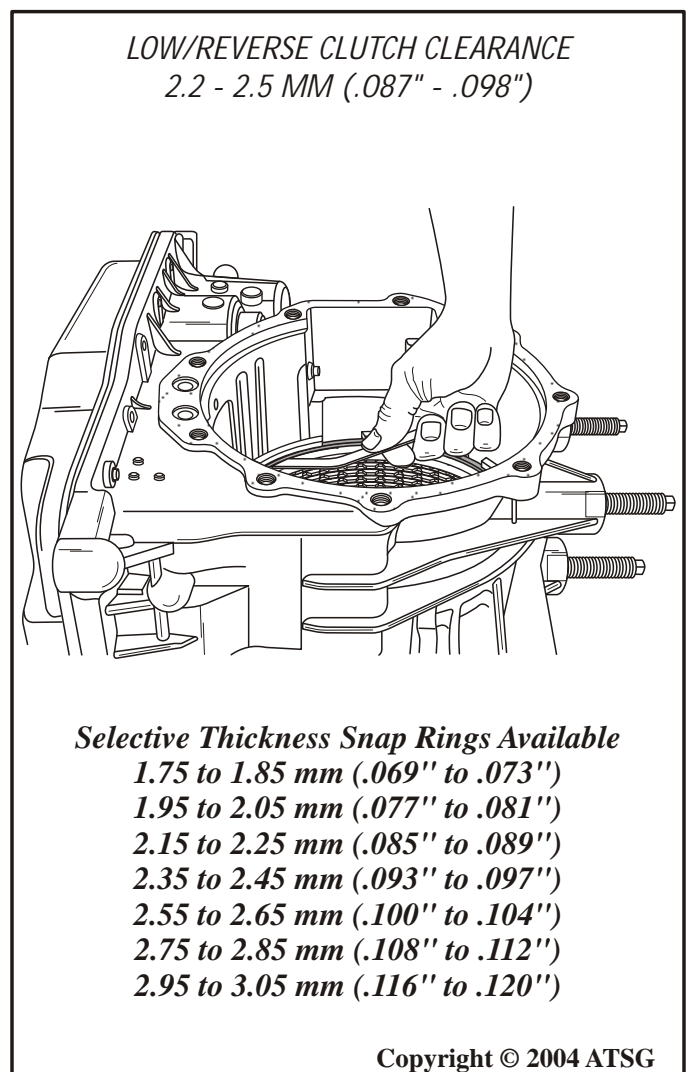

Figure 168
35. Measure the clearance between the snap ring and the backing plate with a feeler gauge, as shown in Figure 168.
36. The low/reverse clutch clearance should be 2.2 to 2.5 mm (.087" to .098"), as shown in Figure 168.
37. Change the selective snap ring as necessary to obtain the correct specification, as shown in Figure 168.